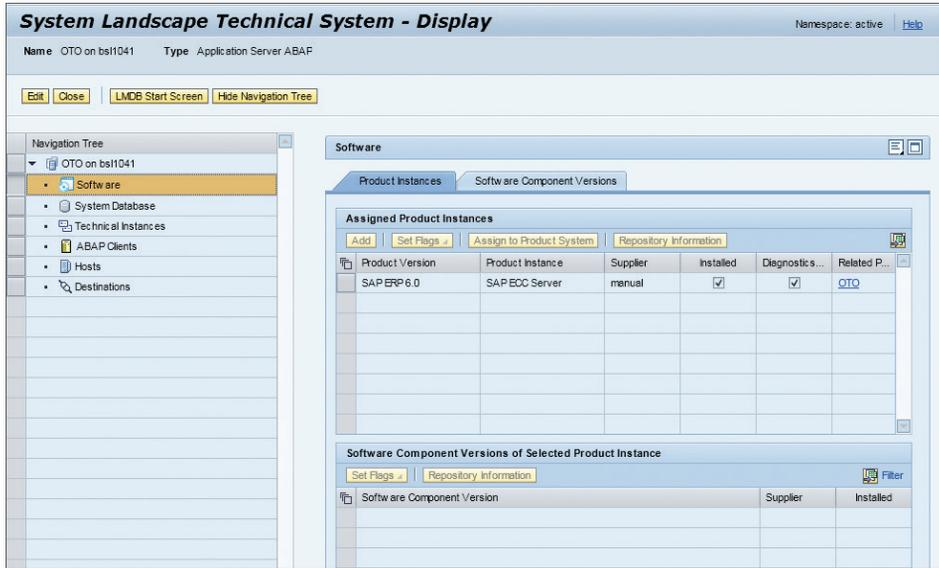

Figure 2.16 Maintenance of Product Information and Instance of the System to Be Connected
1. In the first step, SAP Solution Manager checks whether the system component you selected is an SAP-supported format and a valid version. For our OTO system, this is equivalent to an SAP ERP system with the ECC component. As you can see in Figure 2.16, this information is obtained from the LMDB. You can adjust and extend the information in the LMDB to make sure it is displayed correctly.